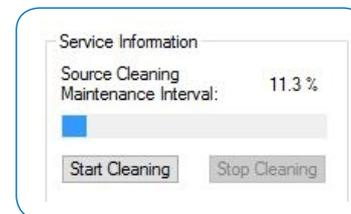

Figure 4.4 Resetting of Maintenance Interval
- The „Maintenance Interval” is set back to 0% automatically after the process is completed (see figure 4.4)